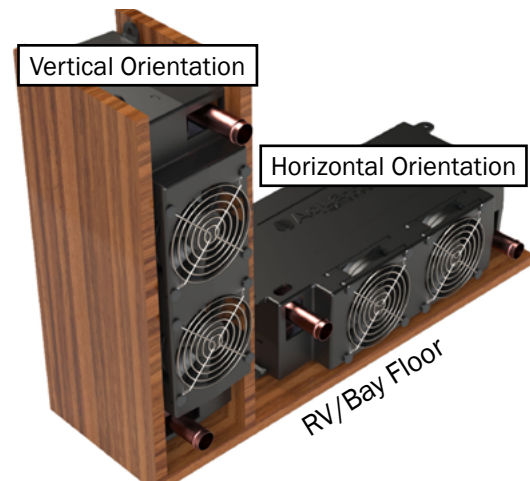

Figure 19
- Cozy heat exchangers can be mounted either flat on the ground or vertically, and as close to the floor as possible for best performance, in an area where it can be easily accessed for maintenance. Reference Figure 19.